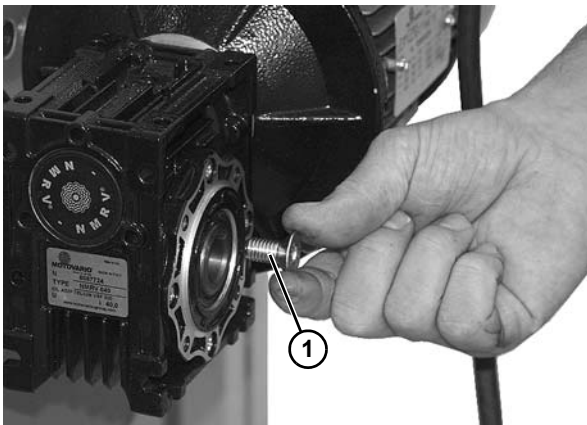

Figure 72
12. Install and tighten flat head screw (**Figure 72, item 1**) onto the drive shaft.